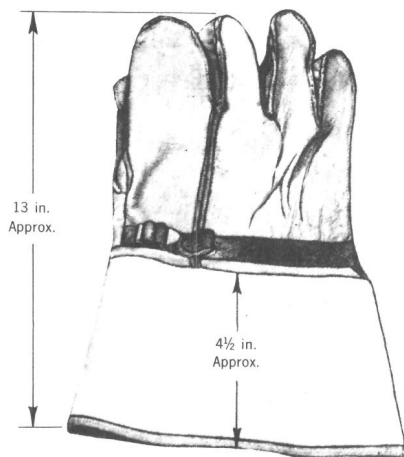

FIGURE 2. Leather Protector Glove.
- 3.03 Leather protector gloves are of the gauntlet type. The overall length is about 13" and the cuff is about 4-1/2" wide. See Figure 2.